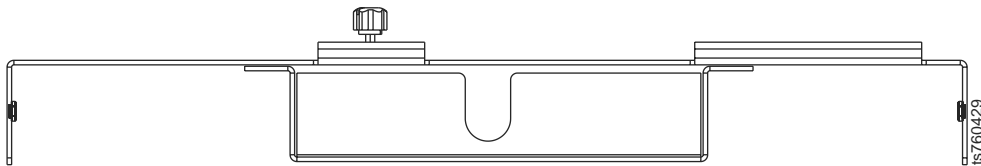

Figure 27. Center thumbscrew
7. Refer to Figure 27. Loosen the center thumbscrew on the rear of the tray.
20. Refer to Figure 27 on page 49. Tighten the center screw of the chassis.